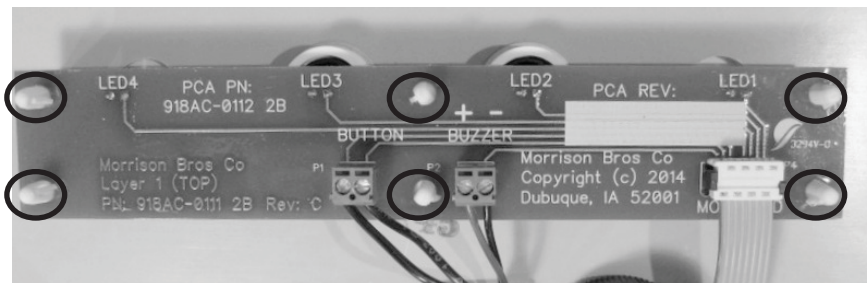

Figure 21 - Location of the (6) Indicator Board supports
- a. Depress the latching mechanism of the first board support and gently lift the board just enough to prevent the latching mechanism from re-latching as shown in Figure 21.